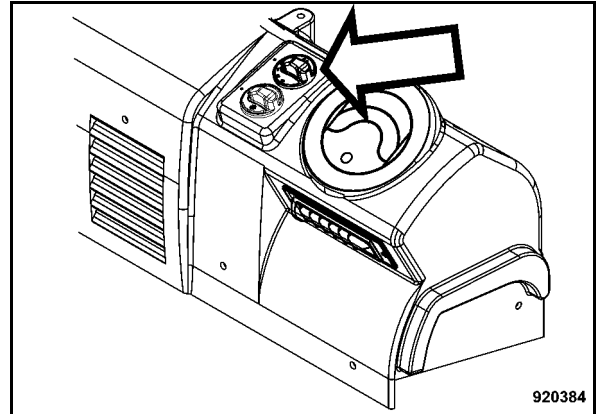

Fig. 146
- Turn the rotary switch for the cab ventilator (Fig. 146) to position "1".